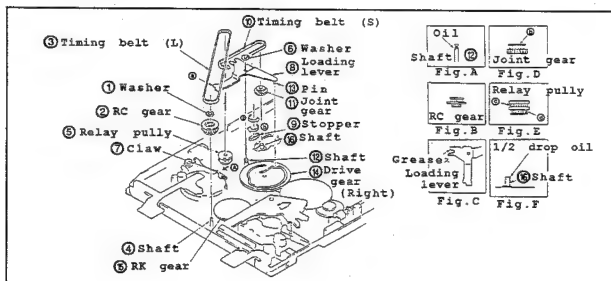

Fig.II-21
• Disassembling (Fig.II-21)
- (1) Set unloading state
- (2) In the same procedures in "3-3", dismount the capstan motor.
- (3) In the same procedures in "3-13", detach the pinch sub arm.
- (4) Remove the washer ①. Then dismount the RC gear ② (with the timing belt (L) ③ hooked) from the shaft ④.
- (5) Remove the washer ⑤. Then, detach the loading lever ⑥ while pushing the claw ⑦ toward the direction ⑧.
- (6) Turn the stopper ⑨ toward the direction ⑩ by 90°.
- (7) Detach the joint gear ⑪ (with the timing belt (S) ⑫ hooked) from the shaft ⑬.
- (8) Separate the timing belt (S) ⑫ from the relay pulley ⑭.
*Note: When dismounting the gear ⑪, do not touch the flange ⑬ part. (Fig.D)
• Reassembling (Fig.II-21)
- (1) Apply 1/2 drop of oil to the shaft ⑬. (Fig.F)
- (2) Hook the timing belt (S) ⑫ to the joint gear ⑪, and then to the gear ⑭ of relay pulley ⑭ (Fig.E).
- (3) Attach the joint gear ⑪ to the shaft ⑬ with the timing belt (S) ⑫ attached.
- (4) Turn the stopper ⑨ toward the ⑩ direction until it comes to an end.
- (5) Apply 1/2 drop of oil to the shaft ②. (Fig.A)
- (6) Insert the loading lever ⑥ into the shaft ②. Then, match the ③ part with the claw ⑦ and insert the pin ⑧ into the groove of drive gear (right) ④.
- (7) Secure the washer ⑤.
- (8) Hook the timing belt (L) ③ to the gear as indicated in the Fig.B, and to the gear ⑭ of the relay pulley ⑭. (Fig.E)
- (9) Mount the RC gear ② to the shaft ④ (with the timing belt (L) ③ attached). Then, mesh it with the RK gear ⑤.
- (10) Secure the washer ①.